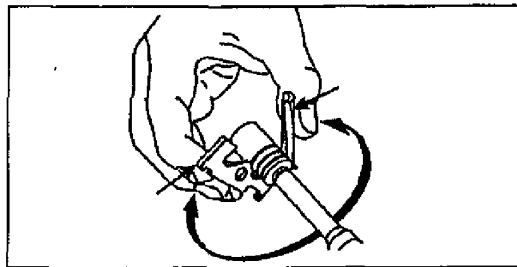

Figure 071-312-4025-20. Cleaning the grooves of the piston
(4) Clean the hole in the front of the piston by inserting and turning the flat side of the scraper in a full 360-degree circular motion (figure 071-312-4025-21).